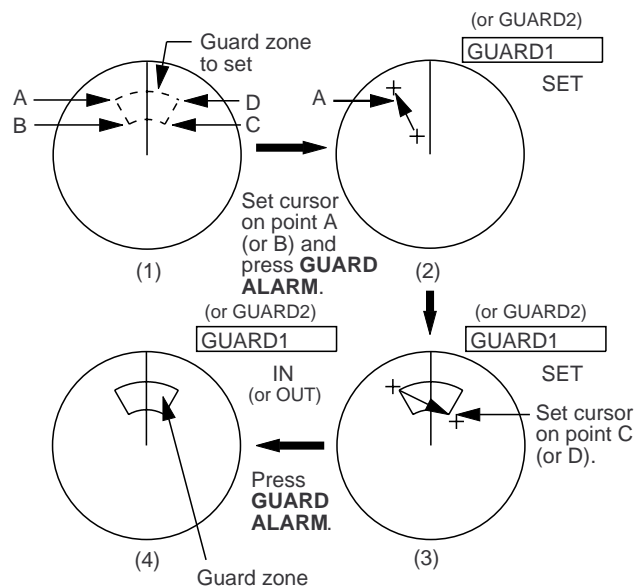

Figure 1-24 How to set the guard alarm
- 1) Referring to (1) in Figure 1-24, operate the trackball to place the cursor at point A or B.
- 2) Press the GUARD ALARM key. GUARD1 (or GUARD2) SET appears at the top right corner on the display. See Figure 1-24 (2).
- 3) Operate the trackball to place the cursor at point C or D. See Figure 1-24 (3). GUARD1 (or GUARD2) IN (or OUT) appears.